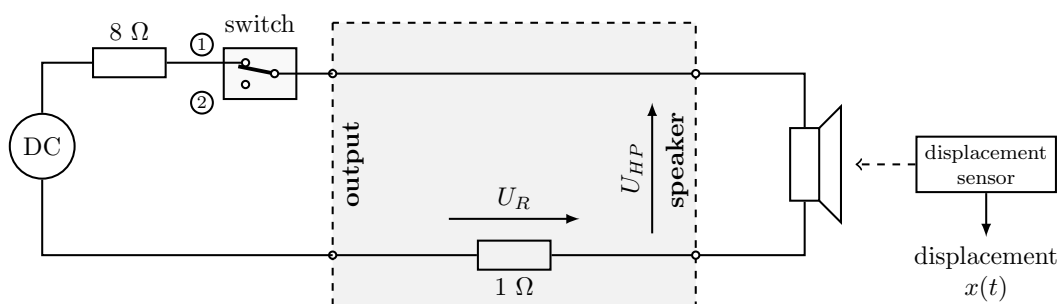
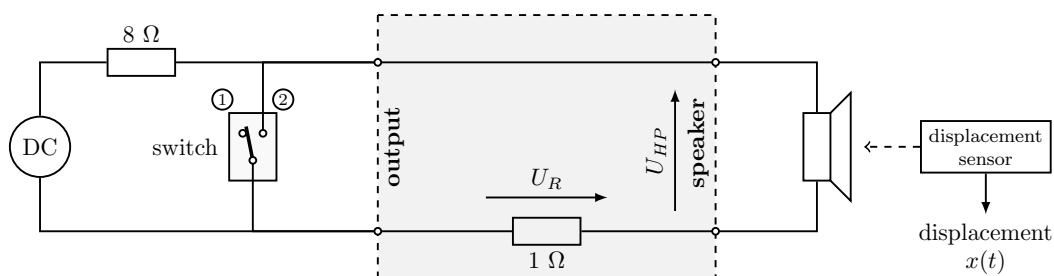

Fig. 2: Block diagram of the experimental setup for current step function measurement.
Fig. 3: Block diagram of the experimental setup for voltage step function measurement.
- Connect the switch-box and the z-box with the loudspeaker as shown in Fig. 2. Ensure both switches are in the "off" (disconnected) position for now.
- For this measurement, you will use the switch illustrated in Fig. 2. The second switch (not shown in Fig. 2) remains disconnected during this step.
- Set the switch from Fig. 2 to position 1 (connected to the DC source). You should observe the loudspeaker membrane exhibit a DC excursion.
- For this measurement, you will use the switch depicted in Fig. 3. The second switch (not shown in Fig. 3) remains connected (allowing the current to run) during this step.
- Compare all three signals: voltage $u(t)$, current $i(t)$, and displacement $x(t)$ for both configurations, as illustrated in Fig. 2 and Fig. 3.